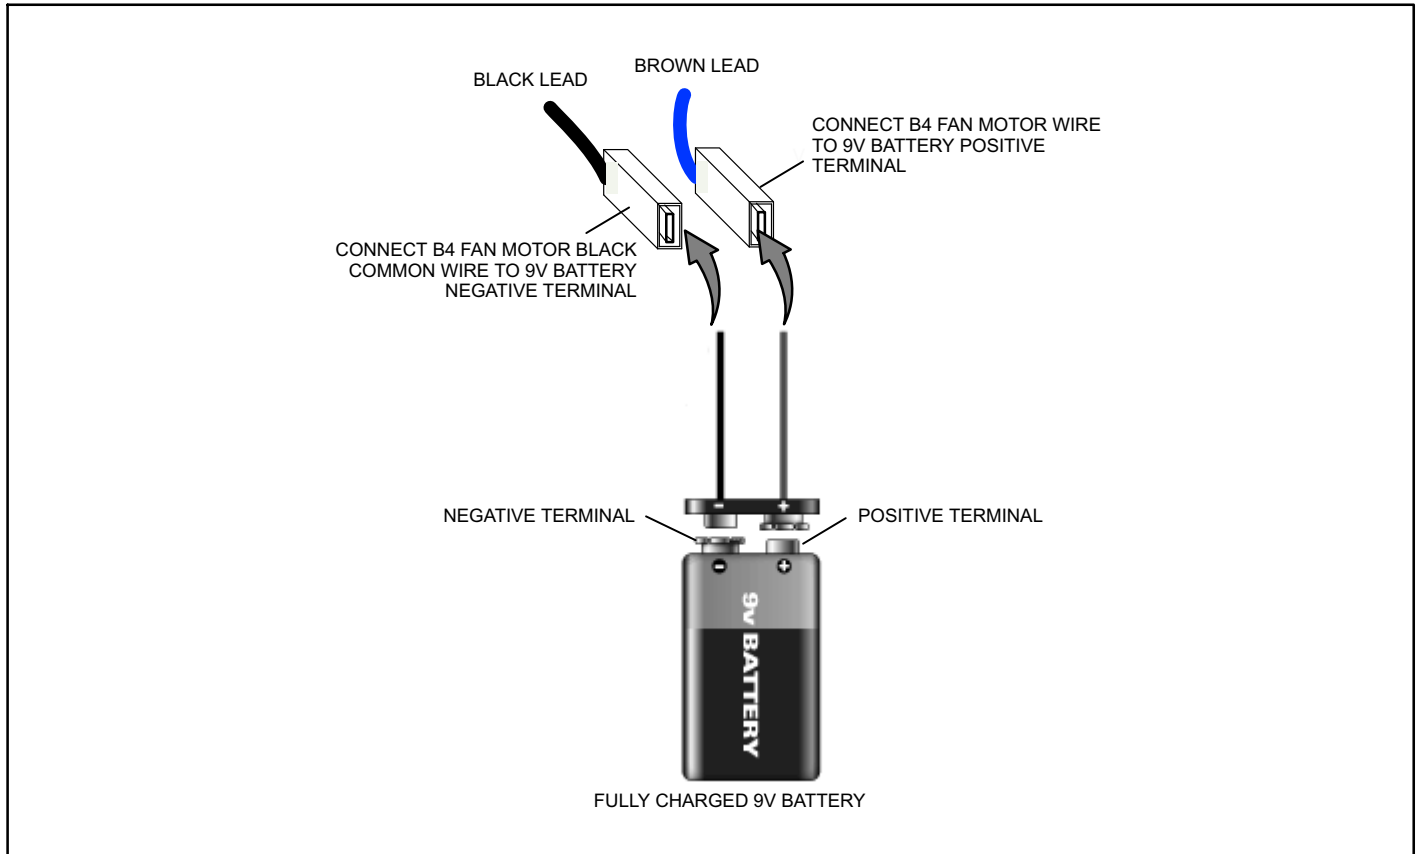

Figure 27. VDC Voltage Check
2. Voltage present – Perform a 9-volt battery test on motor (see figure 27).